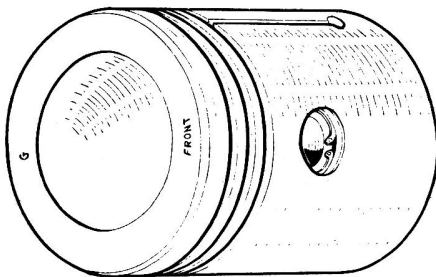

Fig.1.38. Markings on the piston crown
- 4 Ensure that the pistons are the correct way round in the cylinder, the piston crown is marked "Front" to aid reassembly (Fig.1.38).